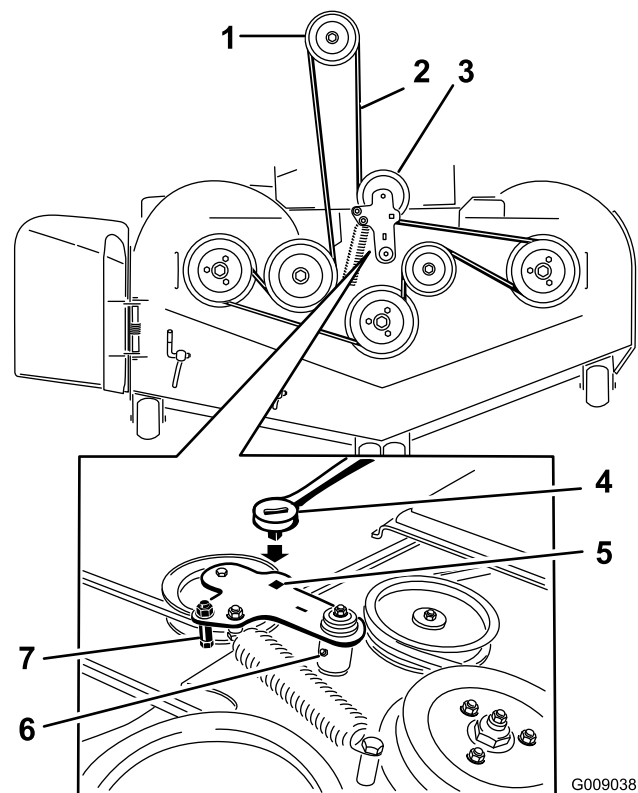

Figure 74
5. Use a ratchet in the square hole in the idler arm to remove tension on the idler spring (Figure 74).
7. Remove the belt guide on the spring-loaded idler arm shown in Figure 74.
9. Install the new belt around the mower pulleys and the clutch pulley under the engine (Figure 74).
10. Install the belt guide on the idler arm shown in Figure 74.
11. Using the ratchet in the square hole, install the idler spring (Figure 74).